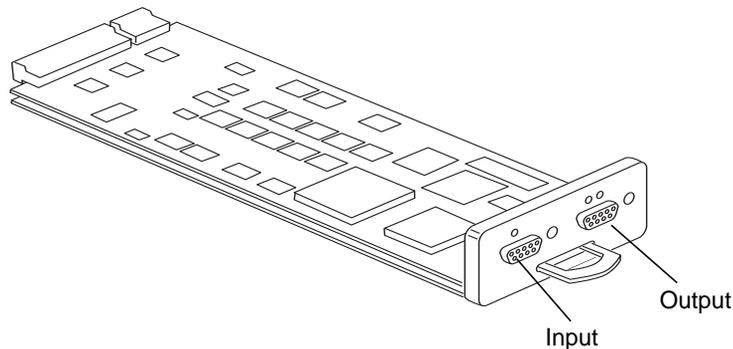

FIGURE 1-2 Interconnect Card and Ports
- FIGURE 1-2 Interconnect Card and Ports 4
FIGURE 1-2 shows a Sun StorEdge T3 disk tray interconnect card.